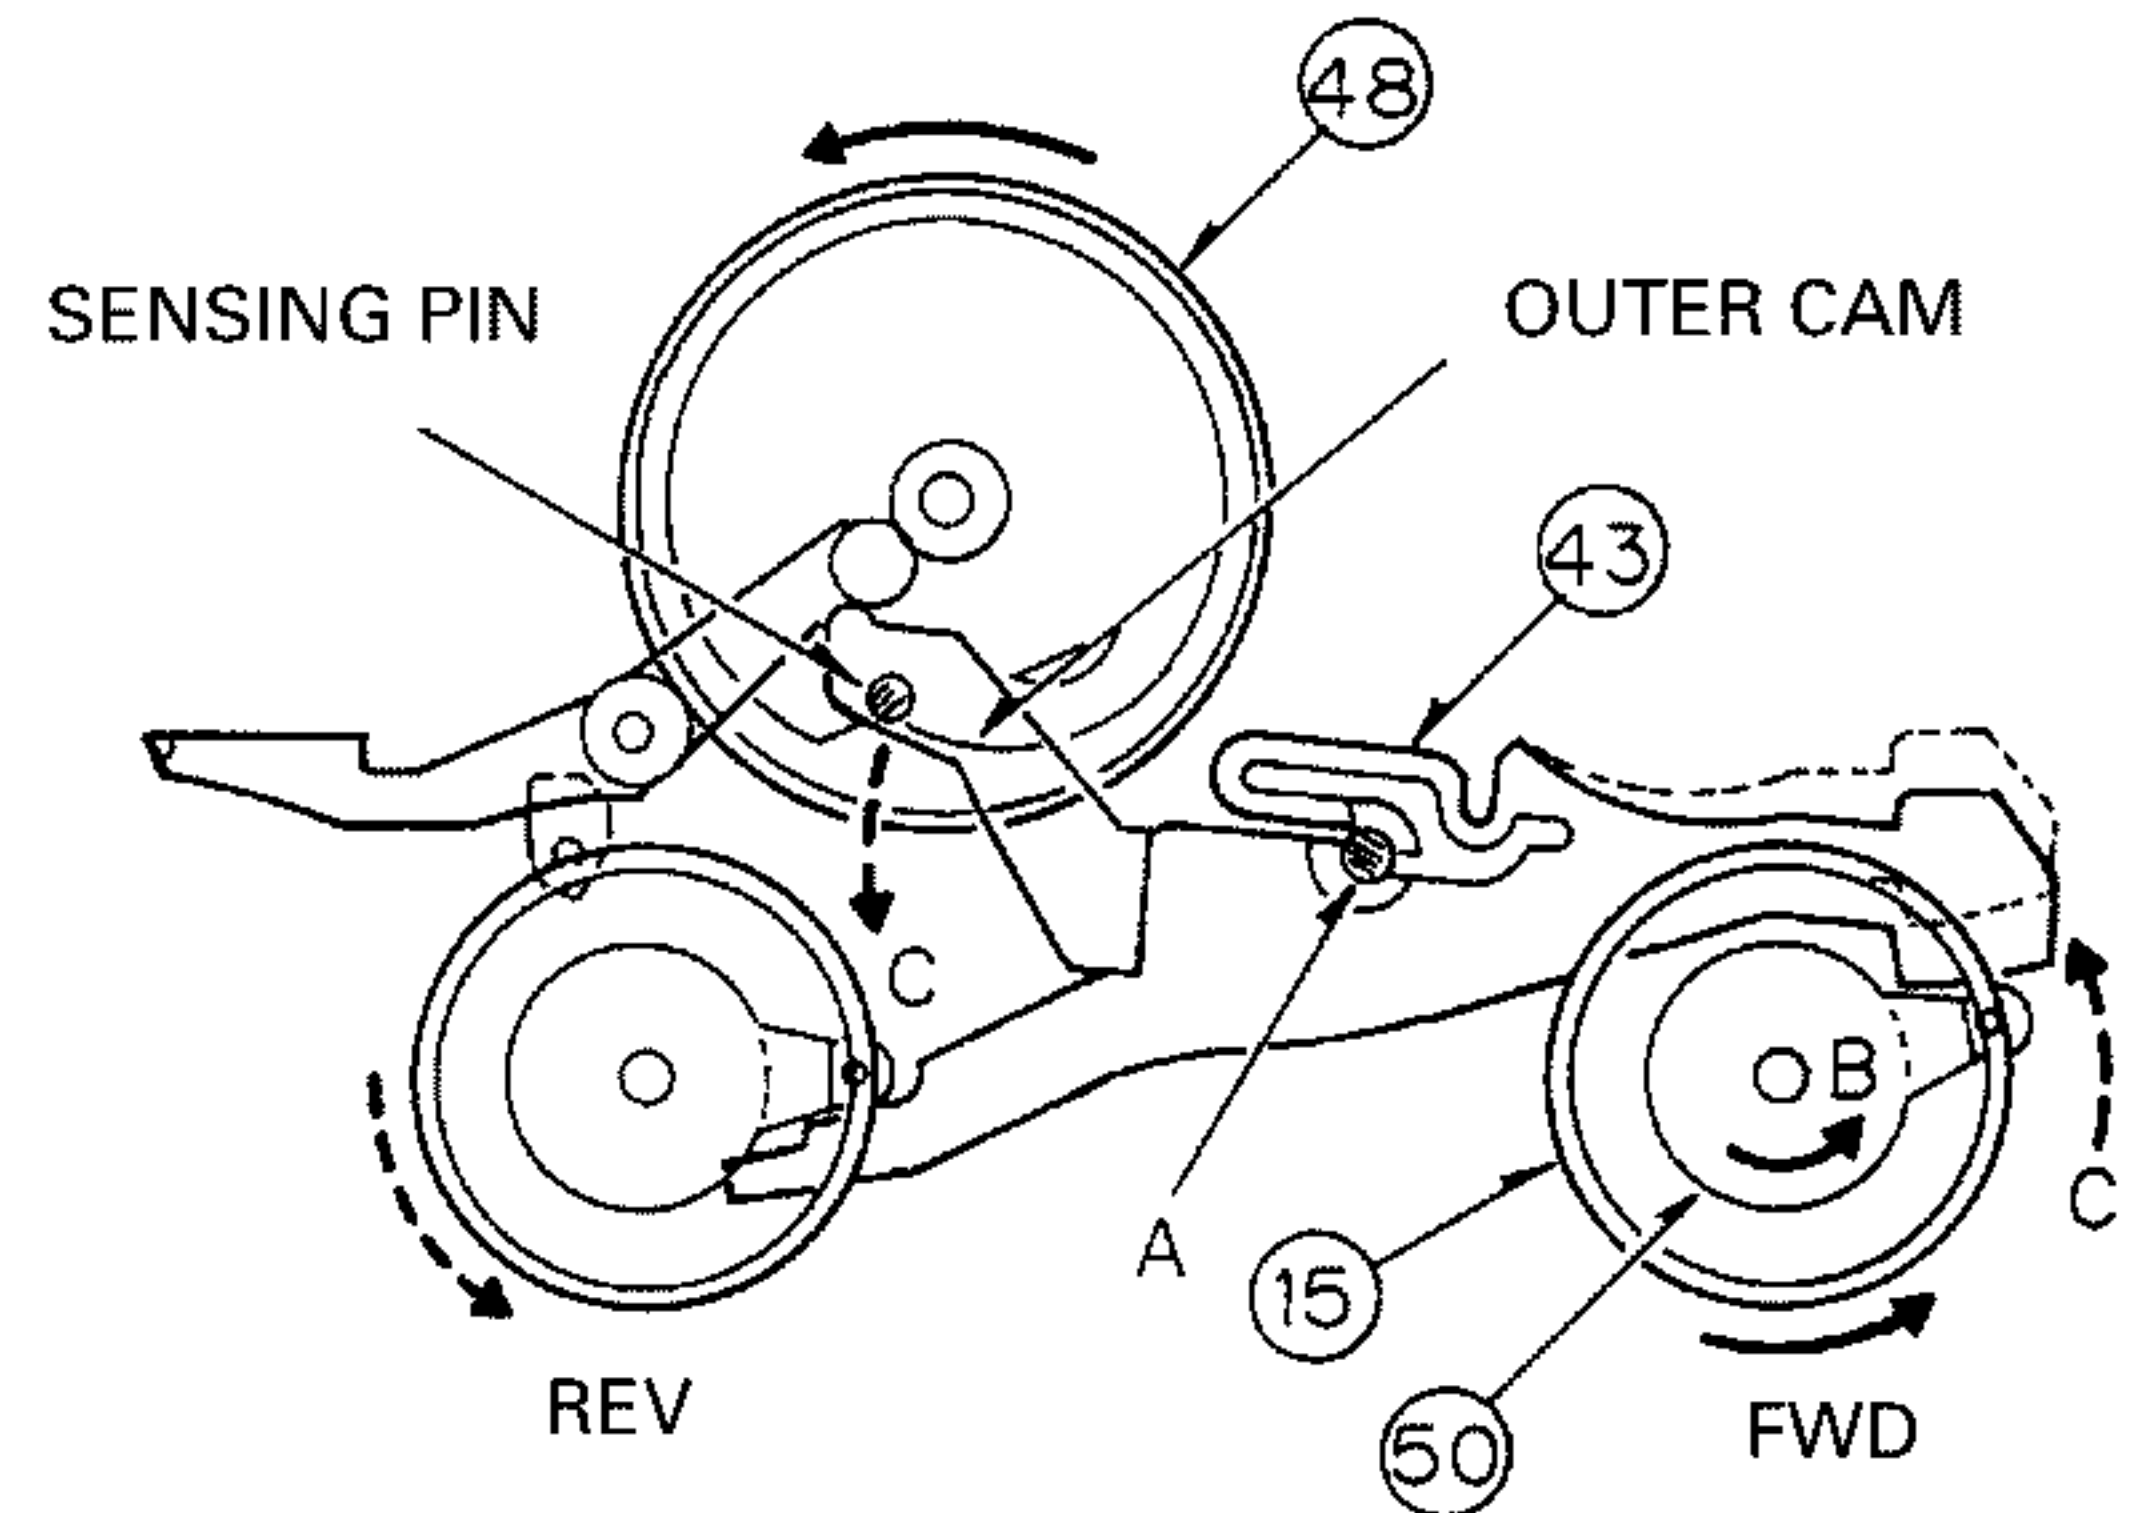

Fig. 3
- (1) The Detector Cam Assy ⑤① generates rotational power in the direction B as shown by an arrow in the Fig.3 as the Reel Spindle Assy (D) ⑮ rotates.
- (2) The Sensor Arm ④③ turns as shown by the arrows C in the Fig. 3, on the fulcrum A by the rotational force of the Detector Cam Assy ⑤①.
- (3) The Detector Gear ④⑧ always rotates. The sensing pin of the Sensor Arm ④③ moves along the outer cam.
- (4) When the Reel Spindle Assy (D) ⑮ stops (or tape rewinding is completed), the Detector Cam Assy ⑤① also stops.
- (5) When the Detector Cam Assy ⑤① stops, the Sensor Arm ④③ also stops turning in the direction C (Fig.3), and stands still.